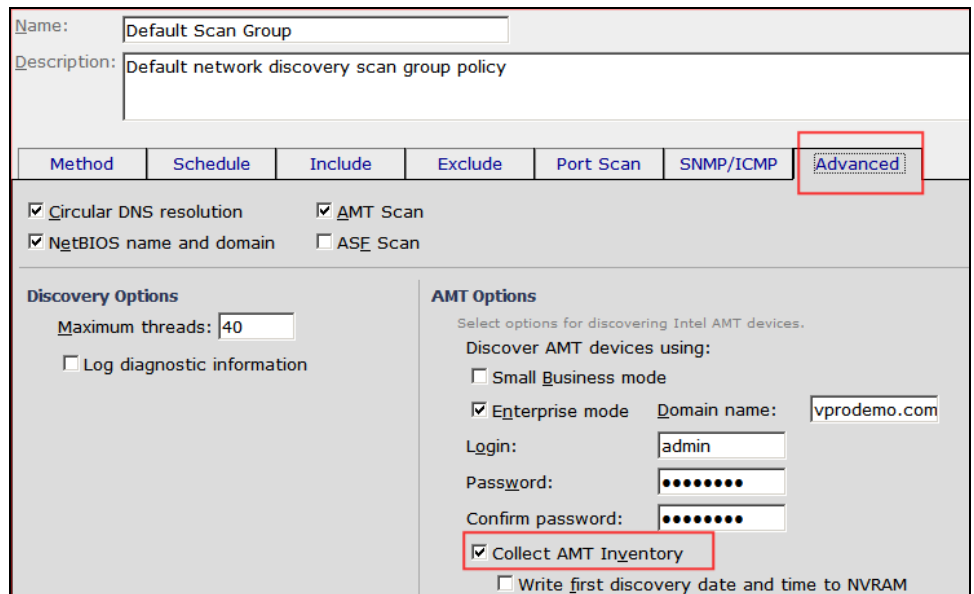

Figure 7. Collect AMT Inventory
5. Under AMT options check the checkbox for Collect AMT Inventory (see Figure 7).